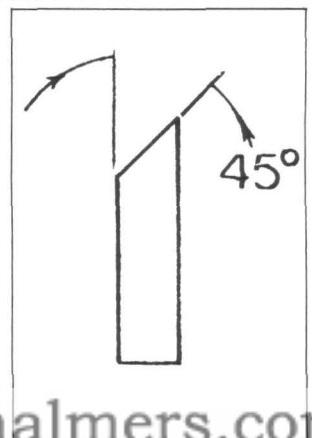

Fig. 5
- D. Sharpen at a 45-degree angle as shown in Figure 5